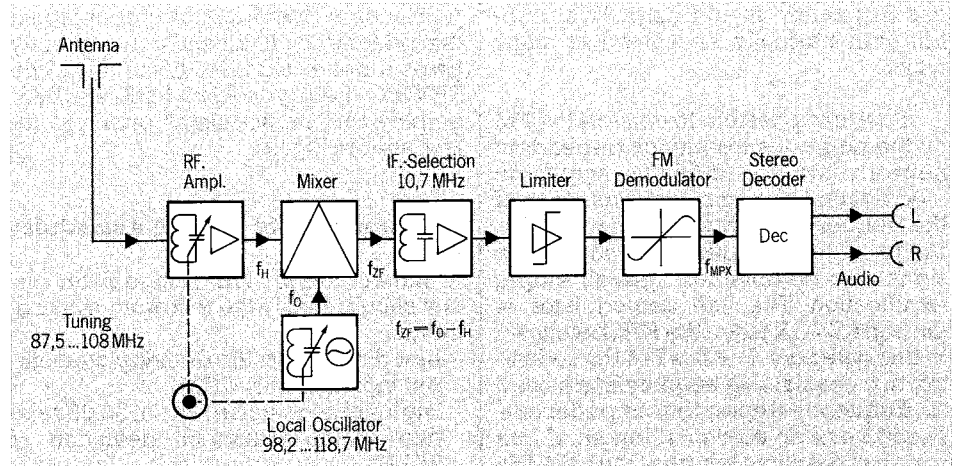

Fig. 1
Fig. 1 contains a simplified block diagram of a FM receiver. The RF signal is taken from the antenna to the selective RF amplifier. With the aid of the tunable local oscillator, the subsequent mixer stage converts the signal to an intermediate frequency (IF) of 10.7 MHz. In the IF section the wanted transmitter signal is properly selected by suited filters and input to the limiter. In the multistage limiting amplifier, the IF signal is clipped to a constant amplitude. From the frequency-modulated IF signal, the audio signal or the MPX signal respectively is recovered in the demodulator. This signal is split into the analog audio signals L and R in the subsequent stereo decoder.